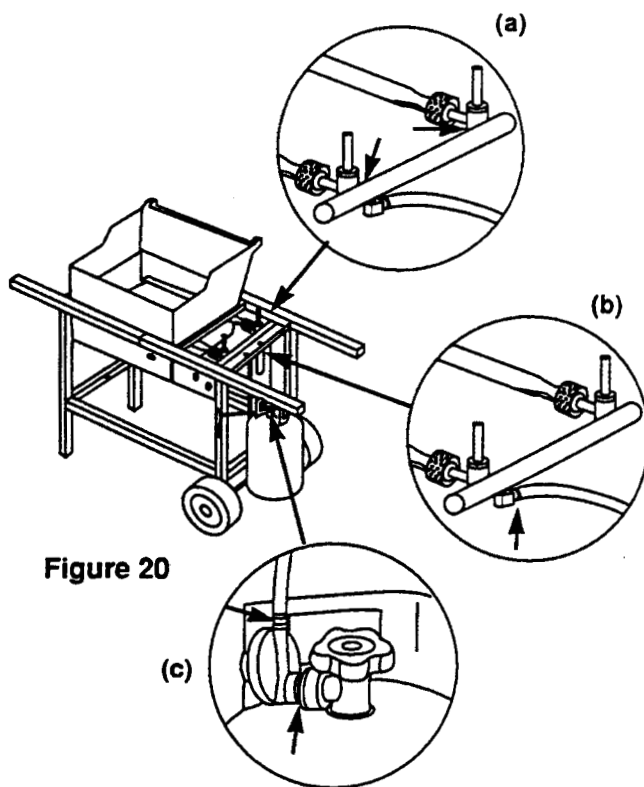

Figure 20
If there is a leak, turn OFF the gas. Tighten the fitting, turn the gas back on and recheck with the soap solution. Figure 20.
- Valves to manifold connections. Figure 20 (a).
- Hose to manifold connection. Figure 20 (b).
- The hose to regulator connection and regulator to tank connection. Figure 20 (c).